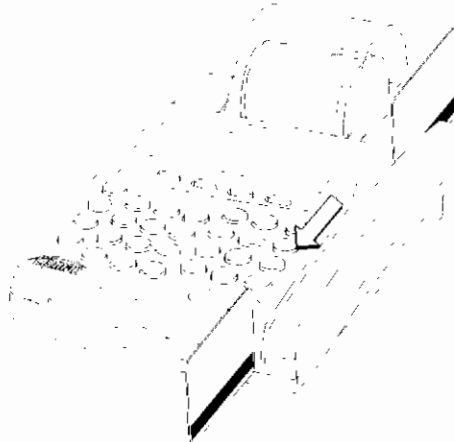

Figure 19 Magnetic Card Reader
1. Verify that the card has been swiped with its magnetic stripe at the bottom and facing the user. See Figure 19 Magnetic Card Reader on page 43.